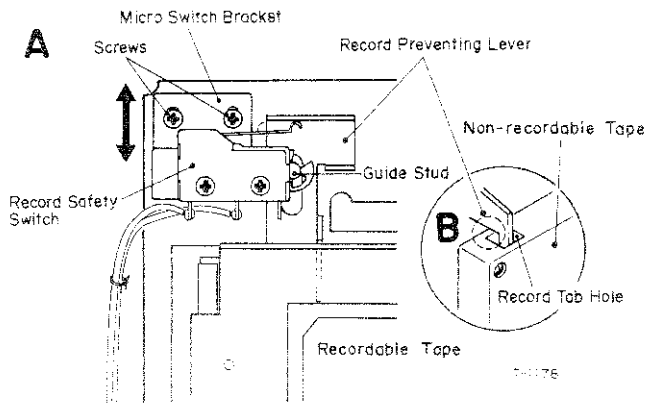

Fig. 5-10 Record Safety Switch Positioning
5. Check that the record preventing lever moves downward, and its bent-projecting portion enters into the tab hole of the tape (to inhibit recording function) as shown in "B" of Fig. 5-10.
6. In addition to the above, ensure that the area of the record preventing lever enclosed in the broken line circle (B) contacts the top surface of the cassette shell.